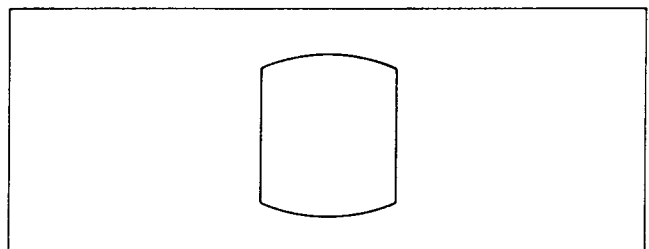

Fig. 2-8-2
- 1) The picture should appear as shown in Fig. 2-8-2 when the boards have been adjusted. If not, adjust to obtain a picture as shown in Fig. 2-8-2 with the RV106 and RV104.